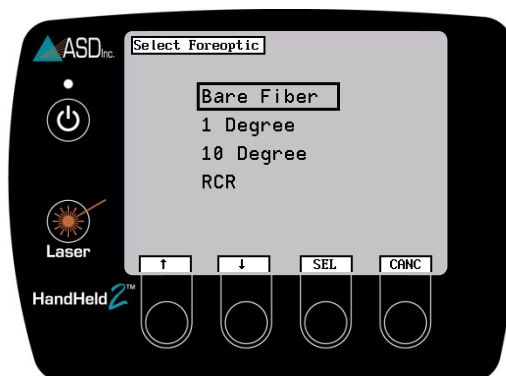

Figure 2-18: Choose Foreoptic Type
- Step 2 If using the HandHeld 2 for the first time, navigate to the “Bare Fiber” configuration (which means that no foreoptic is attached) and press **SEL** (Figure 2-18).